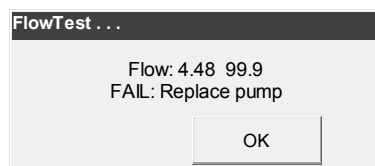

Fig. 7-26 Flow Test Fail
- The two numbers indicate the actual flow rates clockwise and counter clockwise (Fig. 7-26). If one of the two or both rates are out of range, the test fails.